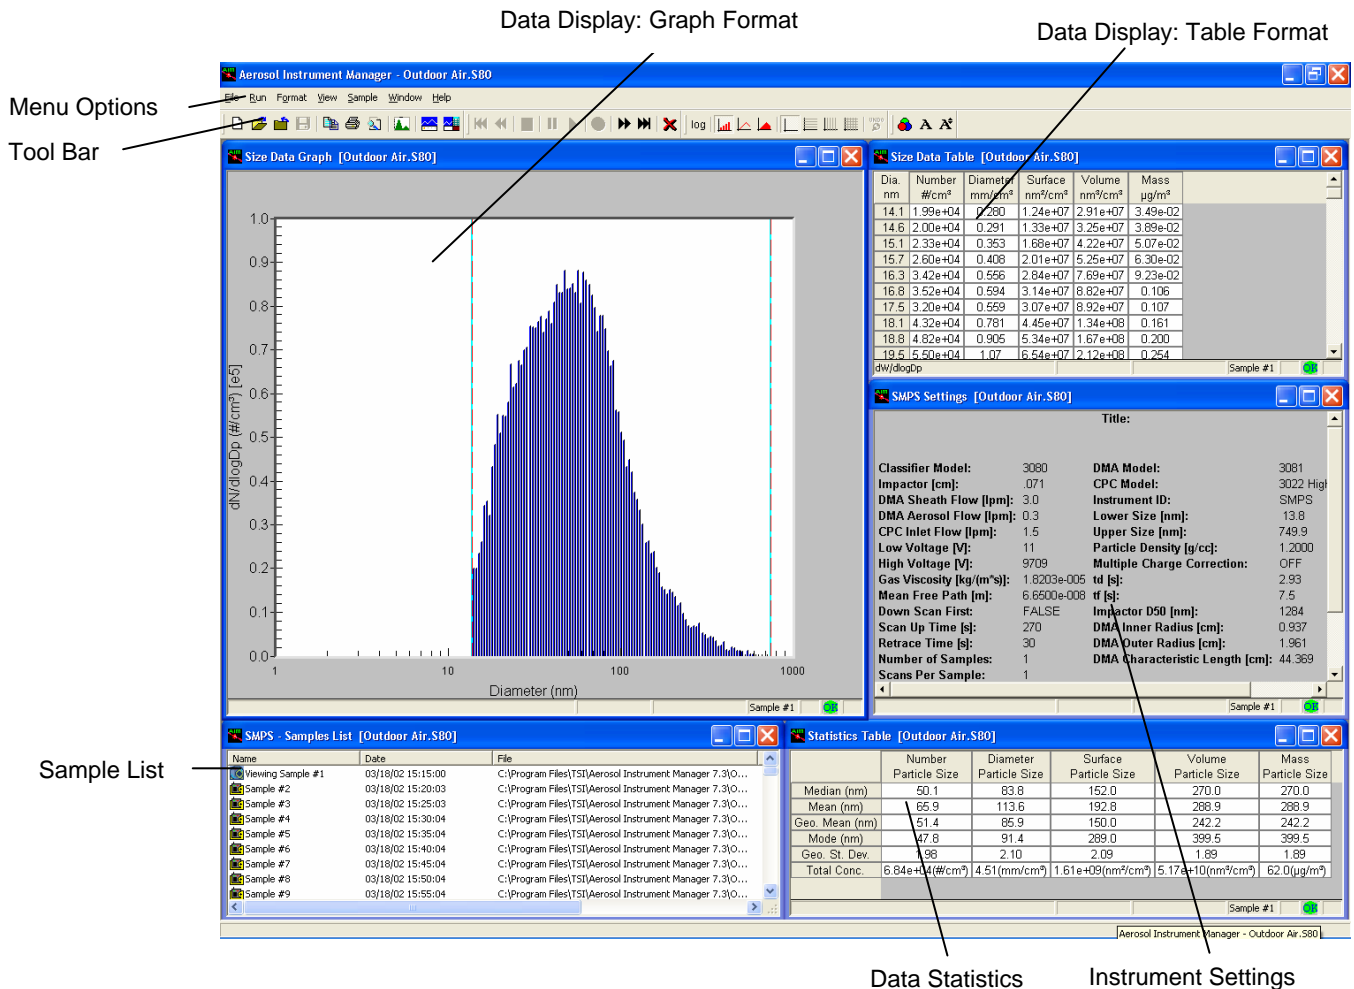

Figure 3-1
The Aerosol Instrument Manager desktop appears as shown in Figure 3-1.
3. Select the data file that you want to open and click **Open**. At least two windows open on the desktop: a window containing a graph of the sample data, and the Samples List window (Figure 3-1).